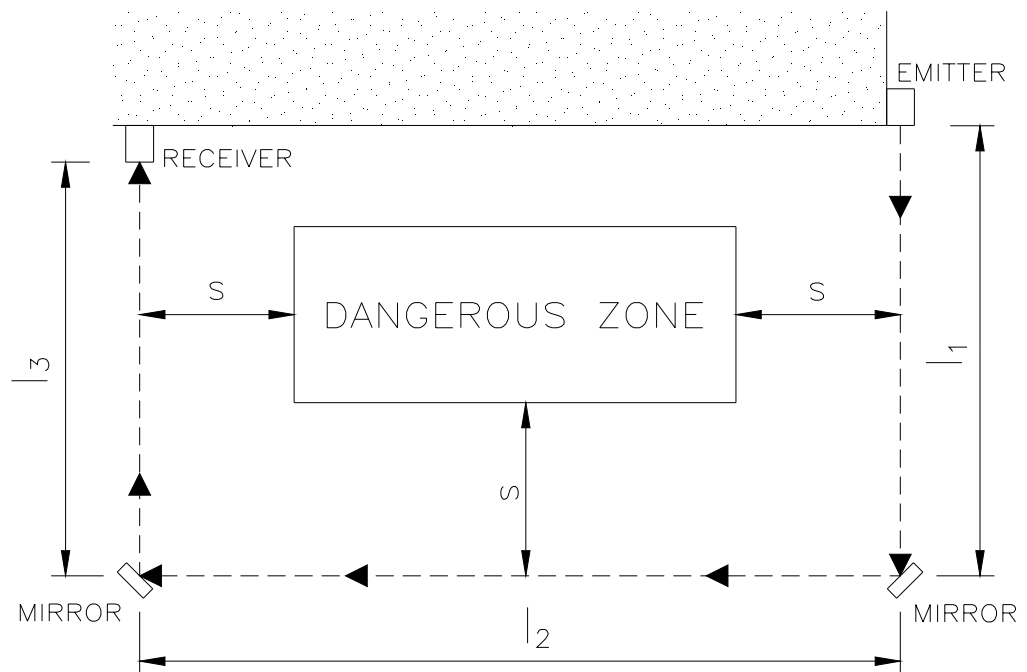

Figure 10
- Place the mirrors so as to ensure compliance with the minimum safety distance **S** (Figure 10) on each side from which the danger zone can be accessed.